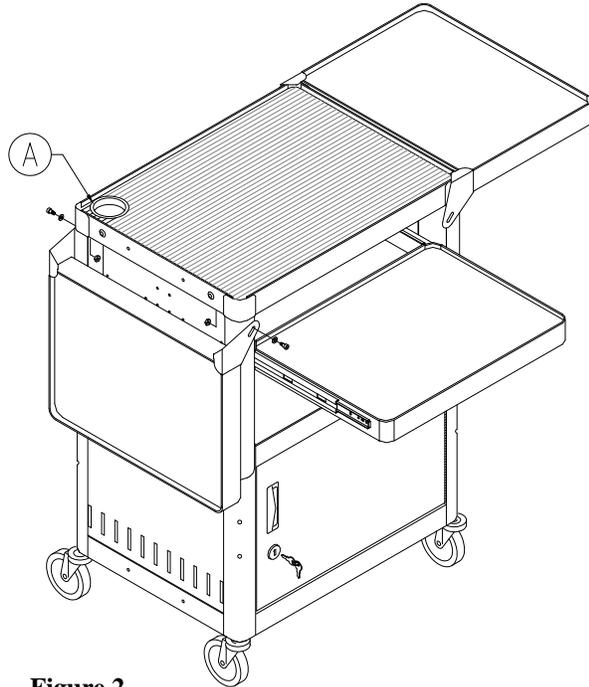

Figure 2
3. Install grommets into the cord management holes. See Figure 2.